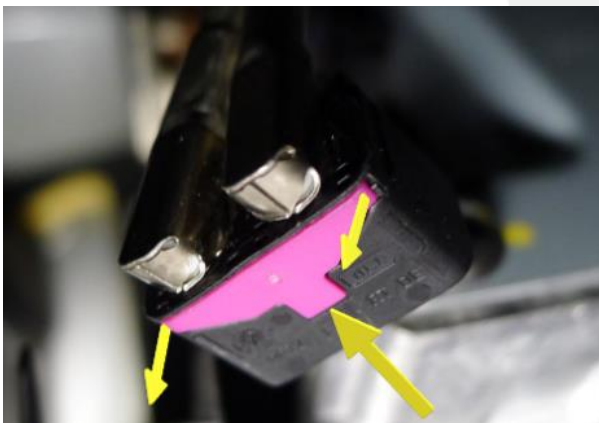

Figure 6 – Model 3 shown; Model Y similar
6. Carefully remove the coax retaining tab (Figures 6 and 7).
ℹ TIP: Use a pick to carefully release the sides and center of the retaining tab, as indicated in Figure 6.